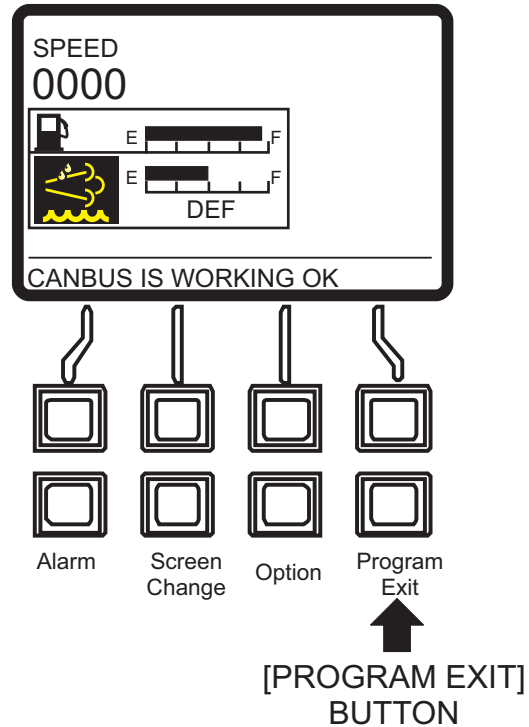

Figure 91. Main Screen
3. Press the **[Program/Exit]** button (Figure 91) to enter the Main Menu.